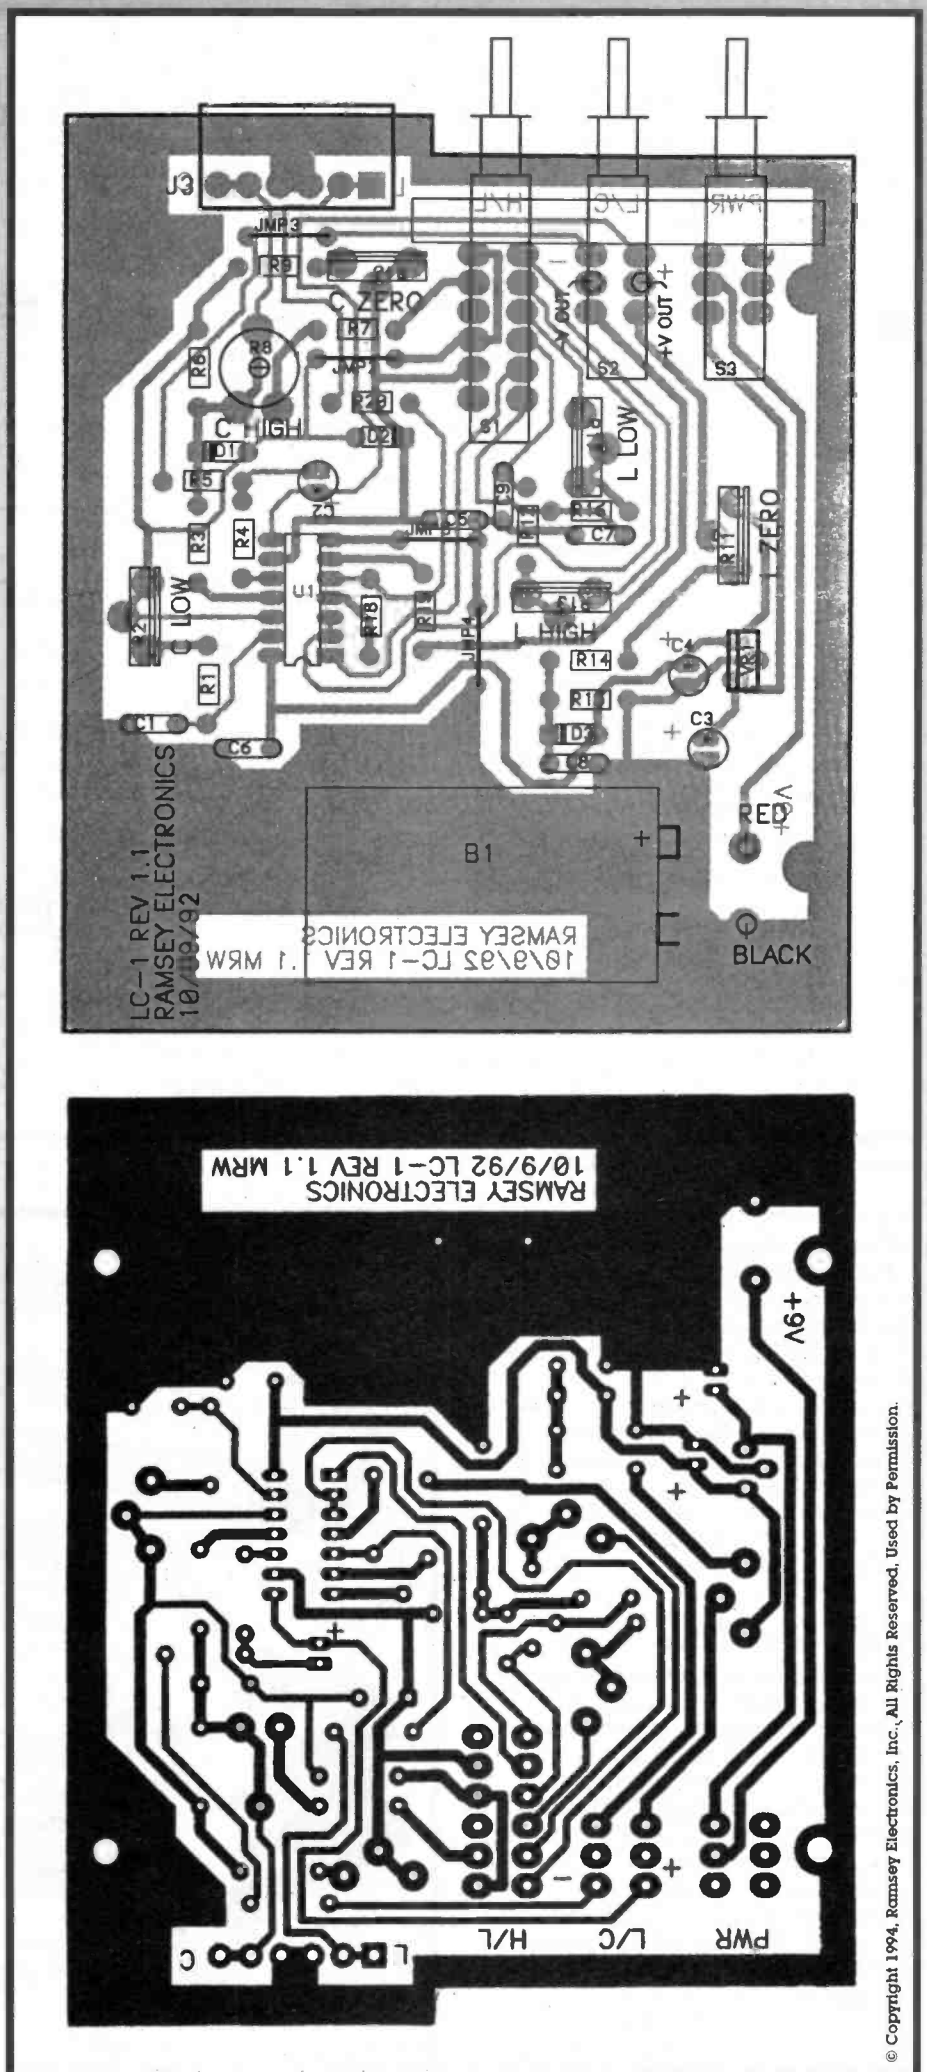

Figure 3. PCB legend and track.
The L/C Meter Adaptor kit includes the PCB, the legend and track are shown in Figure 3, and all the components required to build the project, excluding the case which is available separately. Sort out and identify the components, there are some very good instructions supplied with the kit, and they show a logical path to follow. If you are new to project building, refer to the Constructors' Guide (order separately as XH79L) for helpful practical advice on how to solder, component identification and the like.
- B Figure 3. Circuit diagram of the VHF/UHF Preamp.
A typical configuration of multipliers and switch, for a 50µA meter with a coil resistance of 2000Ω, is shown in Figure 3. Six ranges are available, five of which (2.5V, 10V, 50V, 250V, 1000V) are switched into the circuit via the mechanical rotary switch, while the sixth range; 5000V, is selected by the user by